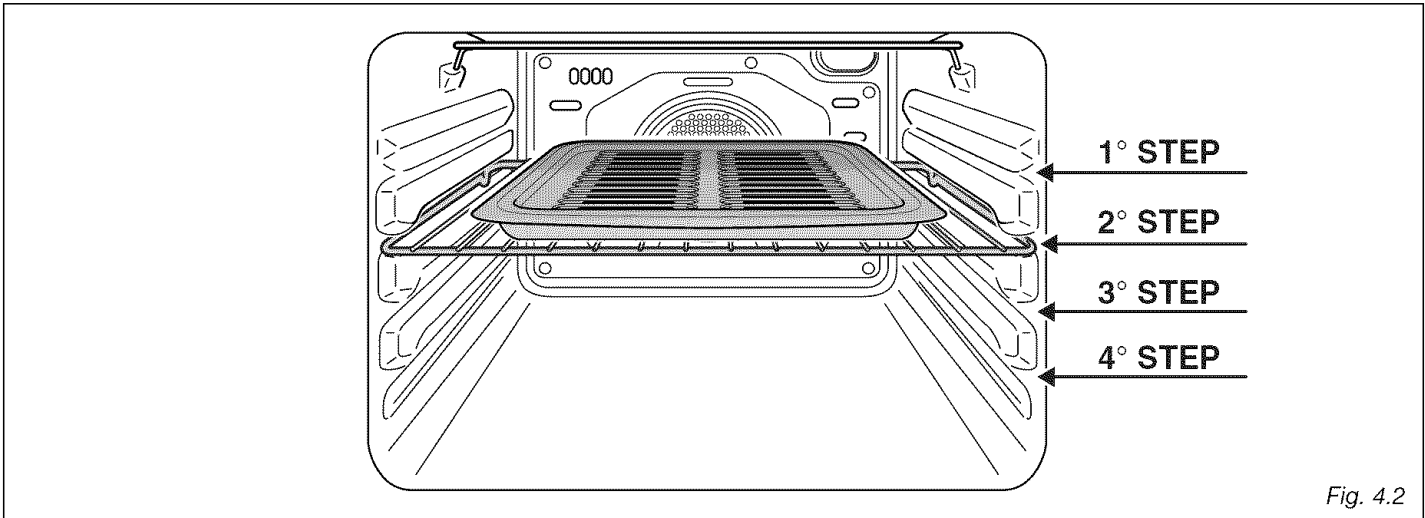
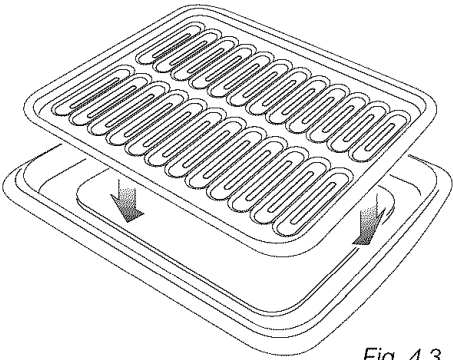

Fig. 4.2
Fig. 4.3
- Position the shelf on the first or second level from the top (fig. 4.2).
- Introduce the broiler tray (fig. 4.3) in the oven. The broiler tray should be placed above the shelf and it should be centered with the broil element (fig. 4.2).